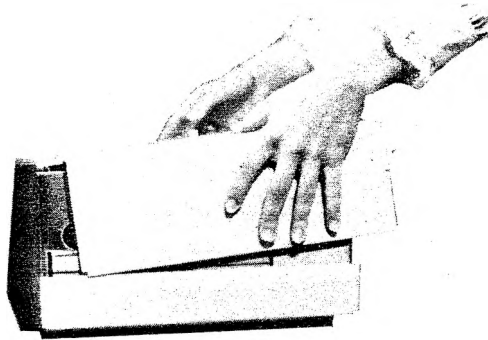

Figure 3-1 Removing the System Unit Cover
4. Remove the system unit cover by loosening the four (4) screws located on the rear of the cover. Disconnect the reset switch connector. The rear cover can now be removed and the system unit cover can be lifted off of the assembly (see figure 3-1).